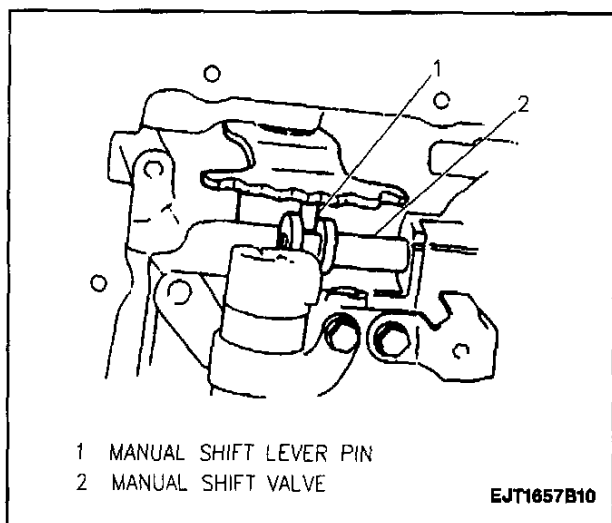

Figure 116—Aligning Manual Shift Lever Pin with Manual Shift Valve (03-72LE, 4-Speed)
7. After confirming that accumulator pistons are pushed all the way down, match pin of manual shift lever with groove in manual valve (Figure 116).